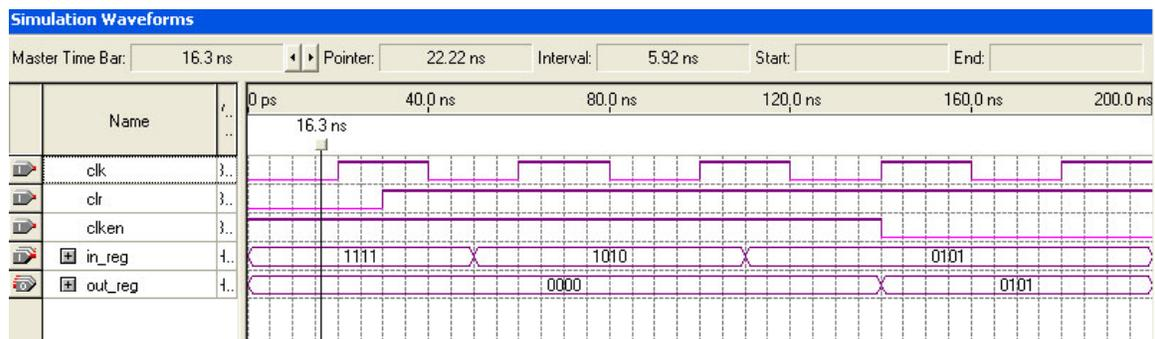

Figure 5-6.
7. Check to see if you get the same results shown in Figure 5-6.